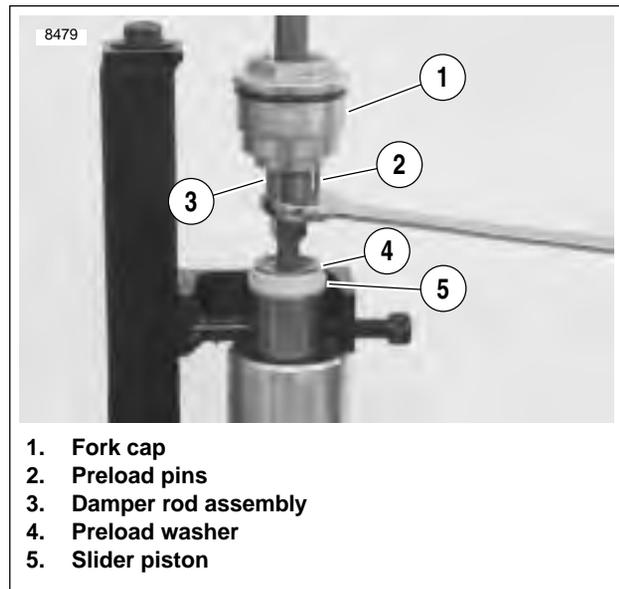

Figure 2-68. Holding Damper Rod Assembly
7. See Figure 2-68. Hold damper rod assembly (3) and remove fork cap (1).